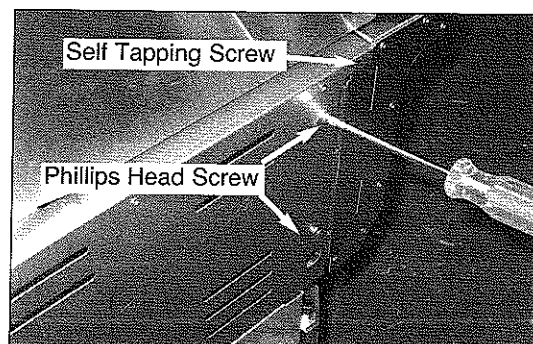

Fig 12
12. Remove the two phillips head screws and one self tapping screw holding the front face on the grill left side. (See Fig. 12)
22. Reinstall the two phillips head screws and one self tapping screw removed in step 11 to secure the front face on the right side of the grill. (See Fig. 12 on page 3)